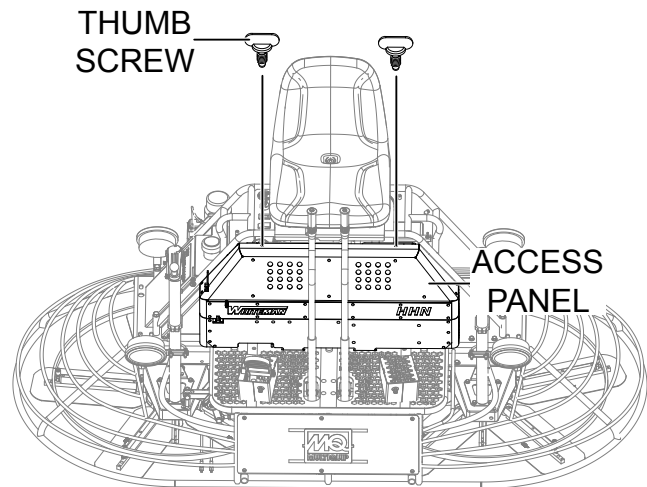

Figure 3. Access Panel Removal
1. Unscrew the 2 thumb screws (Figure 3) located on top of the upper access panel.